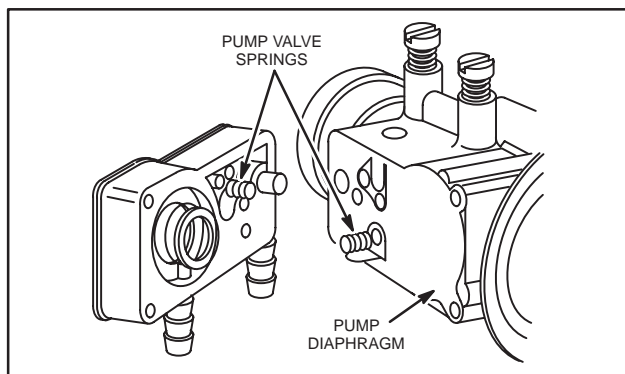

Fig. 290 – PUMP SPRING LOCATION
3. Install one (1) flapper valve spring on spring boss, Fig. 290, and then place diaphragm on carburetor.
4. Place a pump valve spring on spring boss in pump body, Fig. 290, and place pump body on carburetor.